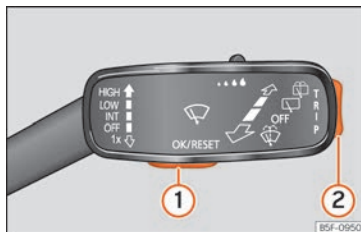

Fig. 61 Wiper lever: control keys.
As long as a priority 1 »» page 69 warning is active, it will not be possible to access any menu. Some warnings can be confirmed and hidden with the button »» **Fig. 61** ①.